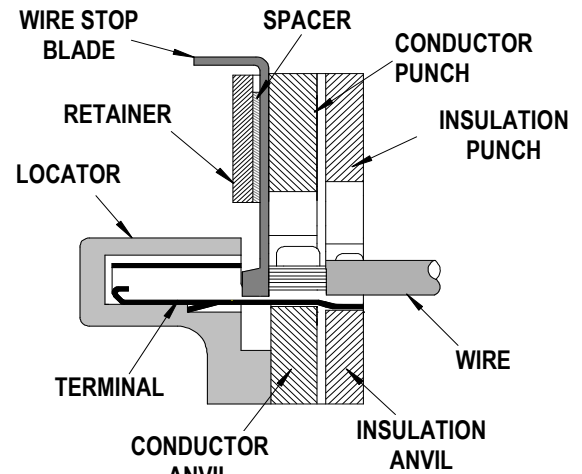

Figure 2
4. Slide the pre-stripped wire into the wire stop blade. See Figure 1. Be sure to hold the wire in place until the terminal is fully crimped. See Figure 2.